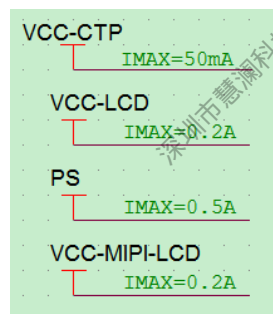

Figure 2-52 The Operating Voltage and Current of LCD Power
- Mark the operating voltage and the maximum operating current of LCD power in the schematic diagram to facilitate PCB layout design, as shown in Figure 2-52.